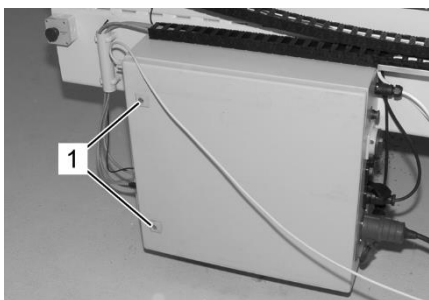

Fig. 49: Controller
3. Open the controller using the square key supplied (Fig. 49/1).